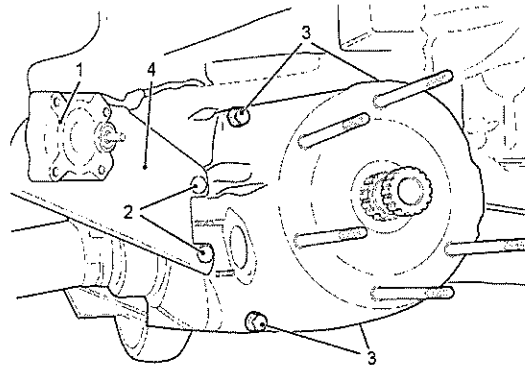

Fig 24 Handbrake flange fixings
71 Remove pneumatic diff lock actuator unit (see Fig 24 (1)) and hang from the vehicle with a suitable strap.